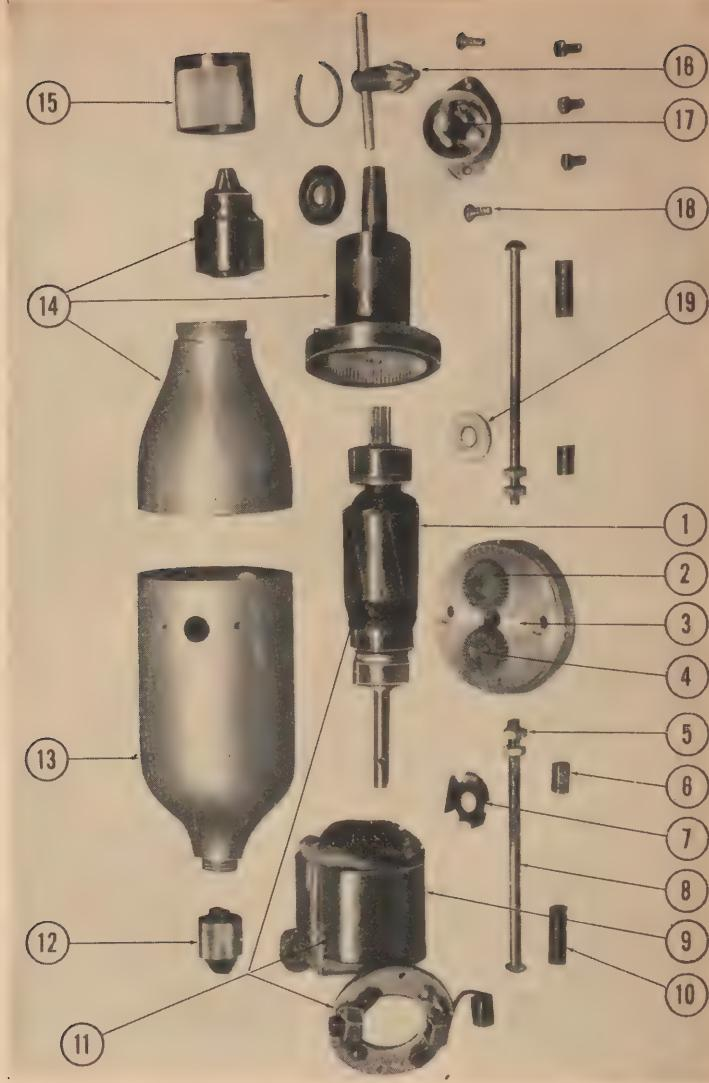
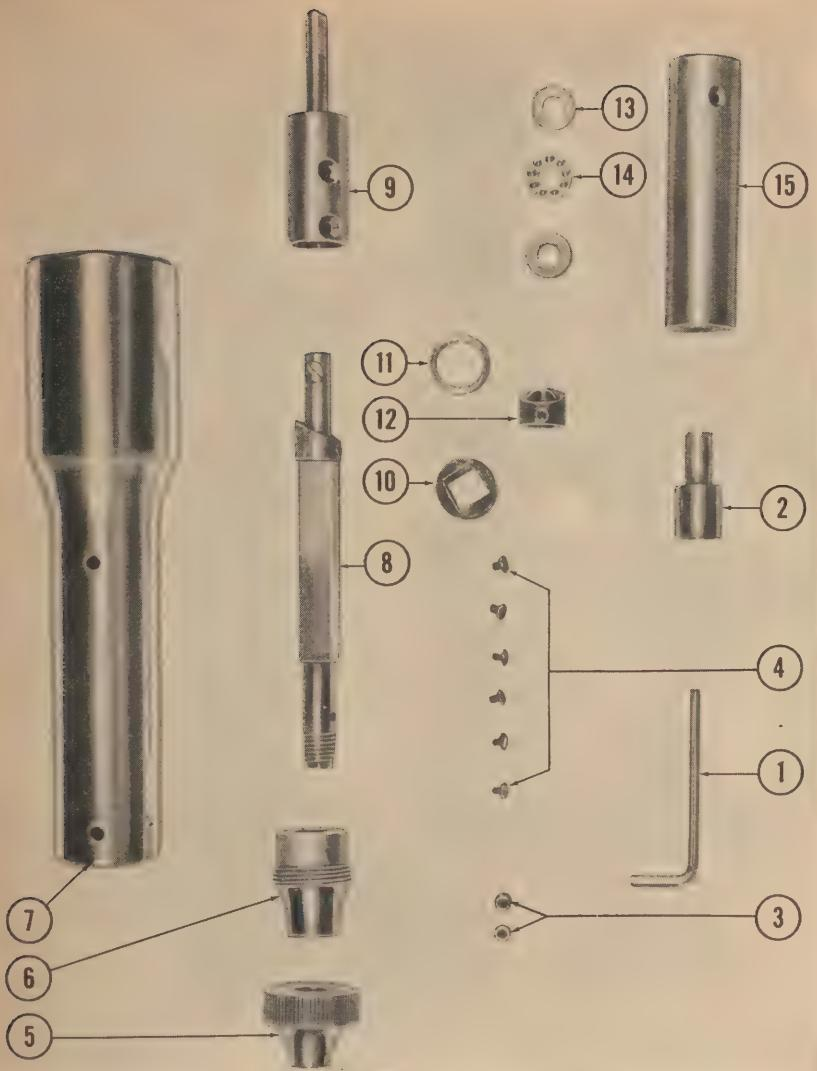

Figure 2. The motor assembly showing all subassemblies and their parts.
Figure 5. The reciprocating attachment assembly showing all parts.
a. WRENCH, Setscrew, Bristo No. 8: SR00193 (figs. 5 and 7).
d. Attaching reciprocating attachment, 3R00156 (figs. 1 and 4). (1) Unscrew the slow end nose cap, 3R00158 (fig. 2).
(2) Using the key provided, 3R00006 (fig. 2), loosen Jacob's chuck enough to allow the driver adapter, 3R00004 (figs. 1 and 6), to slide loosely into the chuck.
(3) Insert the small end of adapter into chuck.
(4) Using key, tighten the chuck securely.
(5) Screw on the reciprocating attachment. Care must be used to prevent stripping of threads.
(6) Attach saws or chisels to reciprocating attachment, screw chuck, 3R00130 (fig. 5), on as far as possible, loosen one notch, and insert saw or chisel and tighten.
e. Attaching telescopic attachment, 3R00152 (fig. 1). (1) Unscrew the slow end nose cap, 3R00158 (fig. 2).
(2) Screw on telescopic attachment.
(3) Insert selected Kirschner wire through attachment into Jacob's chuck.
(2) Connect other female twist lock plug to the motor assembly.
(3) Turn all twist lock connections slightly to the right to lock them.
h. Attaching slotting burrs (fig. 1). (1) Unscrew fast end nose cap, 3R00056 (figs. 2 and 3).
(2) Insert burr into end of spindle.
(3) Give burr a half turn to make certain it is seated properly.
(4) Replace fast end nose cap to prevent burr slipping out.
13. TOOLS ISSUED WITH EQUIPMENT. **a.** WRENCH, Setscrew, Bristo No. 8: SR00193 (figs. 5 and 7).